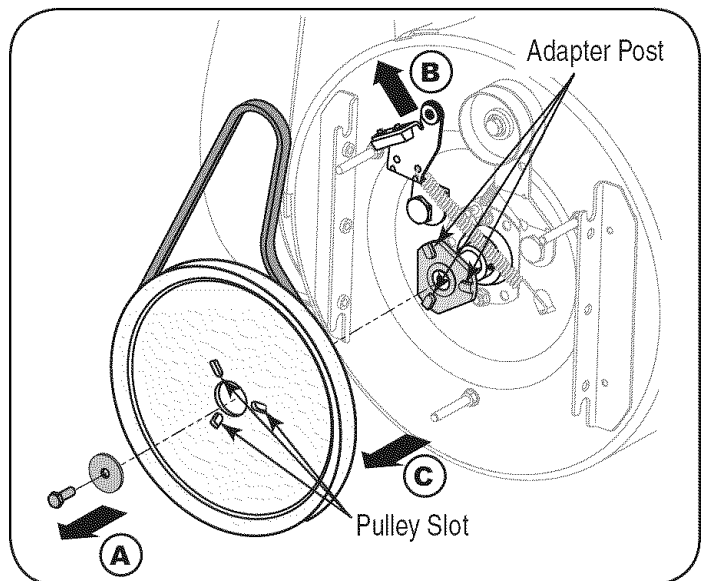

Figure 28
6. Block the impeller with a piece of wood to prevent it from spinning and use a 1/2" wrench to remove the hex screw and flat washer from the center of the pulley on the auger housing. See Figure 28.
7. Lift the brake bracket assembly out of the pulley groove and slide the pulley assembly off the posts of the auger pulley adapter to remove the old belt. Refer to Figure 28.
- Turn the pulley as necessary to align its three slots approximately with the posts of the pulley adapter, then move the brake bracket assembly away from the input shaft. While aligning the pulley slots and adapter posts, push the auger pulley fully onto the adapter. Refer to Figure 28.
**NOTE:** If the pulley adapter was removed with the pulley, align the splines of the pulley adapter and auger input shaft, and push the pulley and adapter onto the input shaft. Refer to Figure 28.